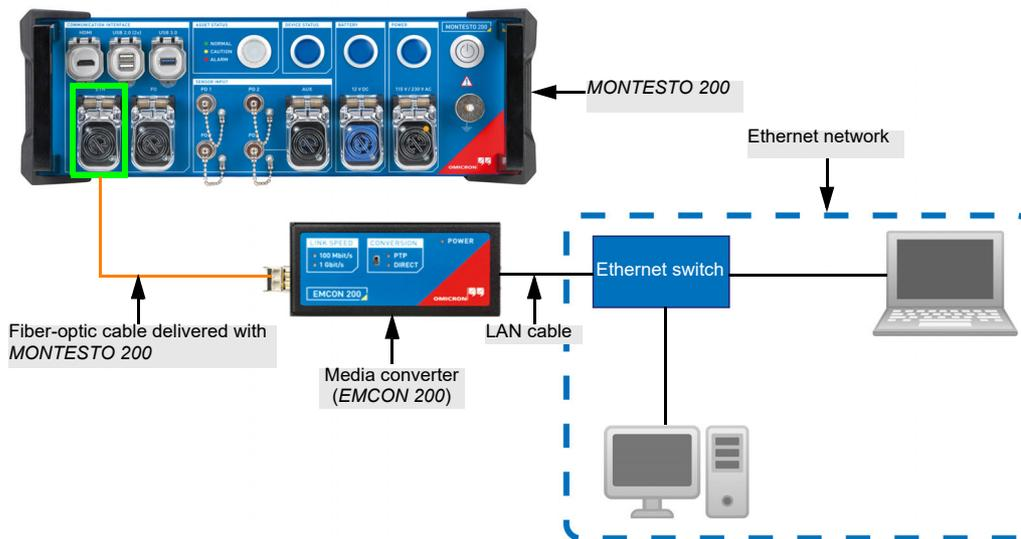

Figure 3-14: Ethernet network connection to the **ETH** port via external media converter
If a WiFi modem is not available, the internal PC can be accessed using its **ETH** Ethernet port. For safety reasons, the **ETH** port is isolated via a built-in Ethernet-to-fiber-optic media converter, providing a fully galvanic isolation of the device (usually installed in the high-voltage area). A special fiber-optic (FO) cable (IP 65-rated) and an external media converter (*EMCON 200*) are delivered with *MONTESTO 200*, see Figure 3-14: on page 23.
- ▶ Connect the media converter to the existing Ethernet network (DHCP server) with a LAN cable (see Figure 3-14: on page 23).